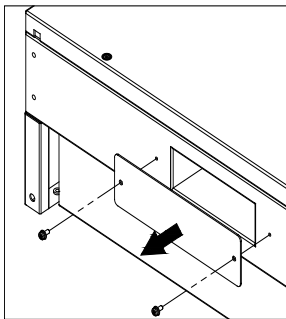

Figure 2.9 – Main Section Cover Plate
(4) Installing the wiring box
- ① Remove the cover plate at the bottom of the main section. (see Figure 2.9)